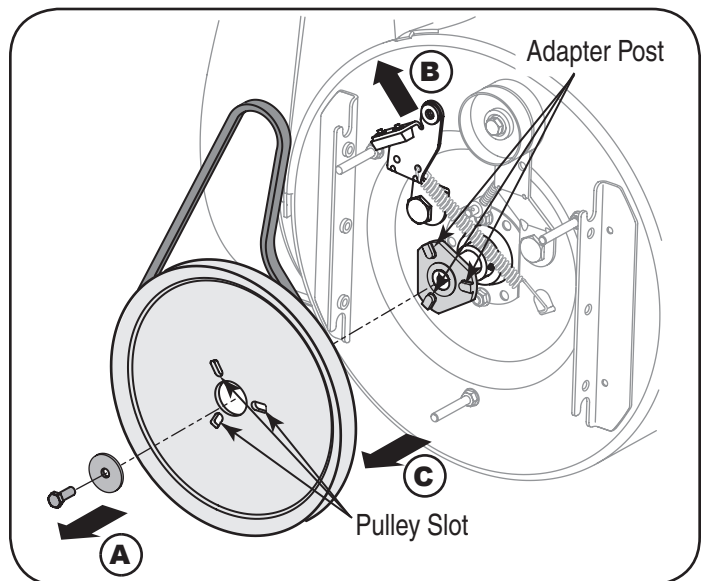

Figure 29
6. Block the impeller with a piece of wood to prevent it from spinning and use a 1/2" wrench to remove the hex screw and flat washer from the center of the pulley on the auger housing. See Figure 29.
7. Lift the brake bracket assembly out of the pulley groove and slide the pulley assembly off the posts of the auger pulley adapter to remove the old belt. Refer to Figure 29.
9. Turn the pulley as necessary to align its three slots approximately with the posts of the pulley adapter, then move the brake bracket assembly away from the input shaft. While aligning the pulley slots and adapter posts, push the auger pulley fully onto the adapter. Refer to Figure 29.
NOTE: If the pulley adapter was removed with the pulley, align the splines of the pulley adapter and auger input shaft, and push the pulley and adapter onto the input shaft. Refer to Figure 29.